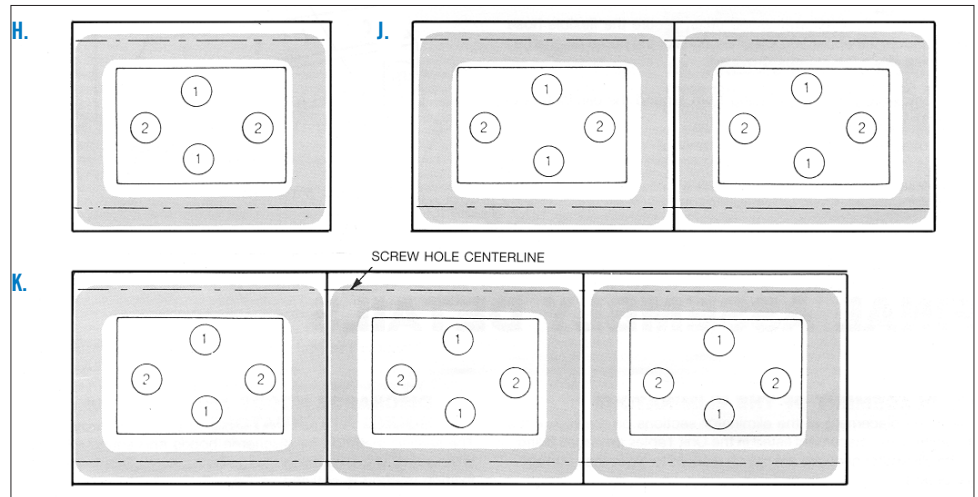

Figure 5.
- On units with more than one casing section, install the remaining casing sections using the same procedure as with the first. However, when installing two or more casings on the pan-fan section, sealer must be applied to both cross flanges. See arrangements J & K in Figure 5.